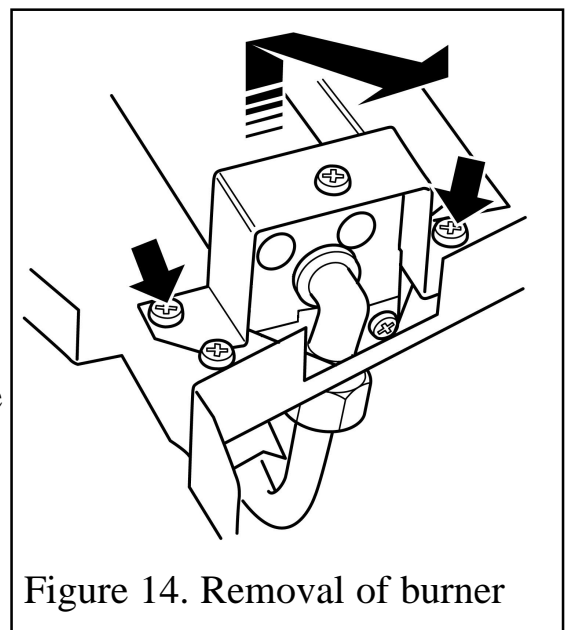

Figure 14. Removal of burner
(See figure 14).
3. Remove the two screws from the burner clamping plate (See figure 14)